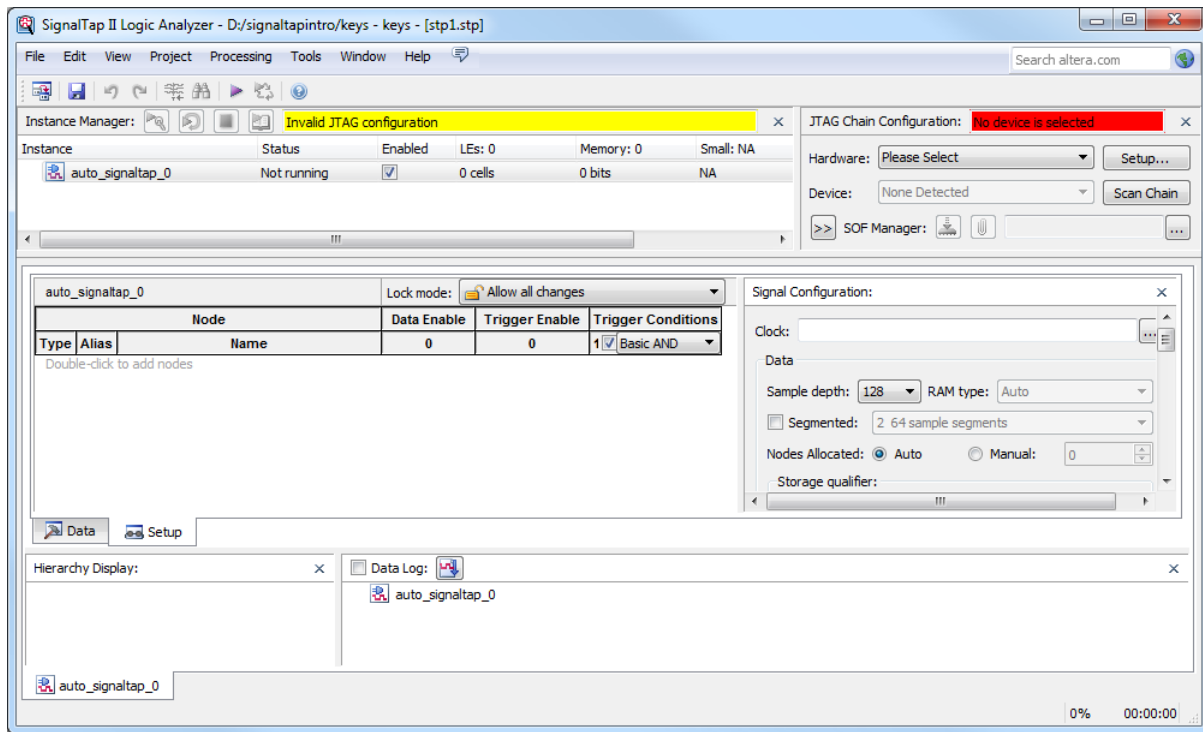
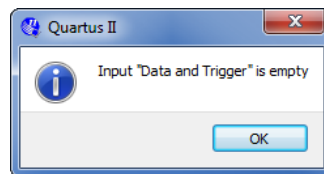
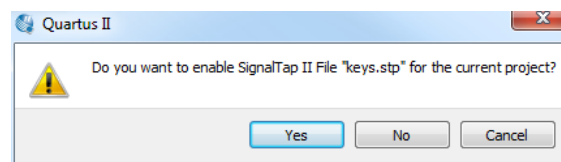

Figure 4. The SignalTap II window.
Figure 5. Click OK to this dialog.
Figure 6. Click Yes to this dialog.
2. The SignalTap II window with the **Setup** tab selected is depicted in Figure 4. Save the file under the name *keys.stp*. In the dialog box that follows (Figure 5), click OK. For the dialog "Do you want to enable SignalTap II file 'keys.stp' for the current project?" click Yes (Figure 6). The file *keys.stp* is now the SignalTap file associated with the project.